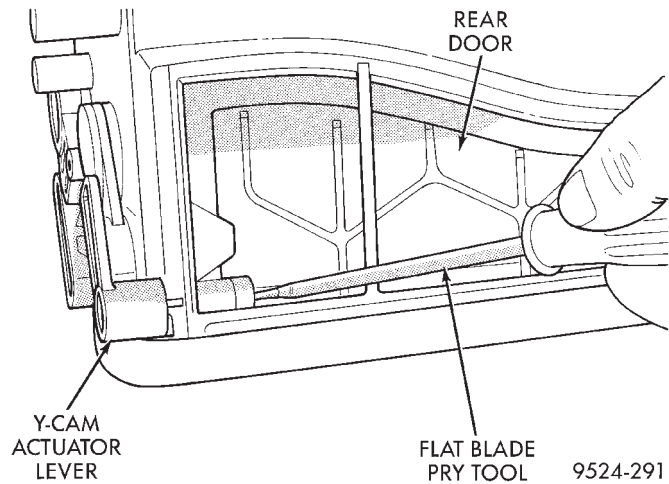

Fig. 79 Rear Y-Cam Release
- (4) From inside of air inlet, depress release tang on rear inlet door (Fig. 79).